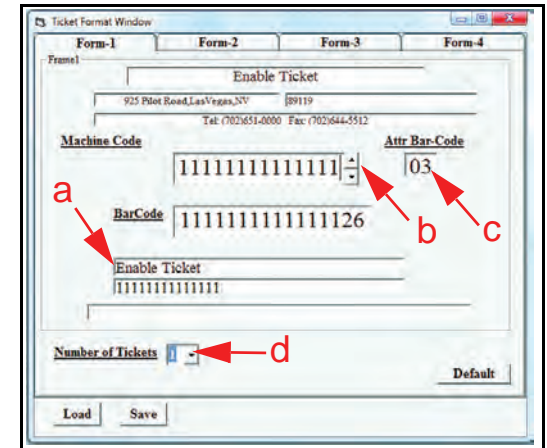

Figure 10 Form-1 Enable Ticket Screen
In the “FORM-1” Screen’s Ticket Name Window (See Figure 10 a).
2. Enter fourteen (14) Ones (i.e., 11111111111111) in the Machine Code Window (See Figure 10 b).
3. Enter “03” in the Attr-Bar Code Field Window (See Figure 10 c).
4. Select the desired number of tickets from the Number of Tickets pull-down menu or Enter the number of tickets desired in the window (See Figure 10 d) and